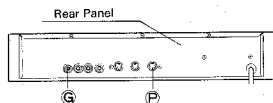

Fig. 5
- Remove the 4 hexagonal nuts **G** (#9) on the rear panel. (Refer to Fig. 5)
- Remove the 2 screws  $\text{P}$  ( $3 \times 8$  bind head screw), and take the PN4/4 circuit board out of the unit. (Refer to Fig. 5)